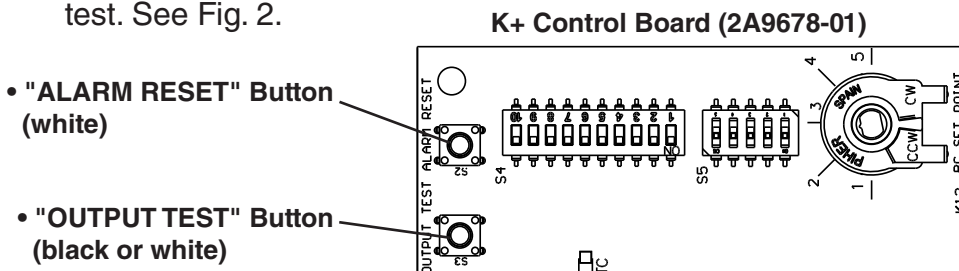

Fig. 2
- 3b) **K+ Control Board (2A9678-01)** - The "OUTPUT TEST" button provides a relay sequence test. Make sure the control switch is in the "ON" position and the mode switch is in the "ICE" position, then press the "OUTPUT TEST" button. For the correct lighting sequence, see the table below. Note that the order of the LEDs from the outer edge of the control board is Comp, CV, WV, DV, PM, FM/HGV. Components cycle during the test. See Fig. 2.